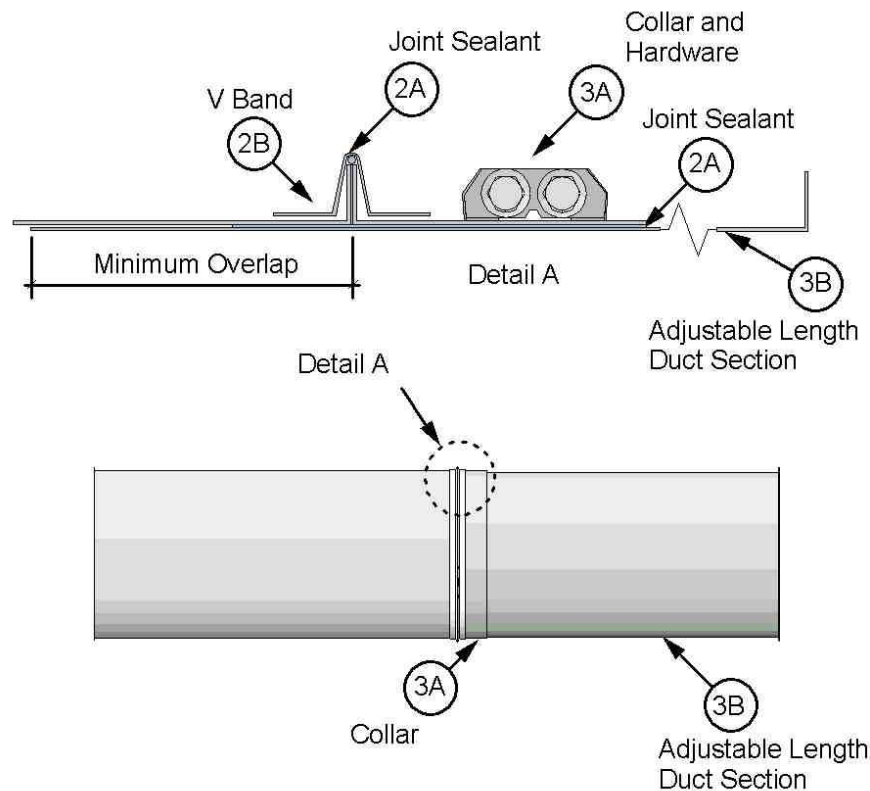

Figure 3. Adjustable Length Joint
- 3. ADJUSTABLE LENGTH JOINTS:** Join the pre-fabricated grease duct (Item 1) adjustable length section to standard duct section using the following components and methods, and as shown in Figure 3: